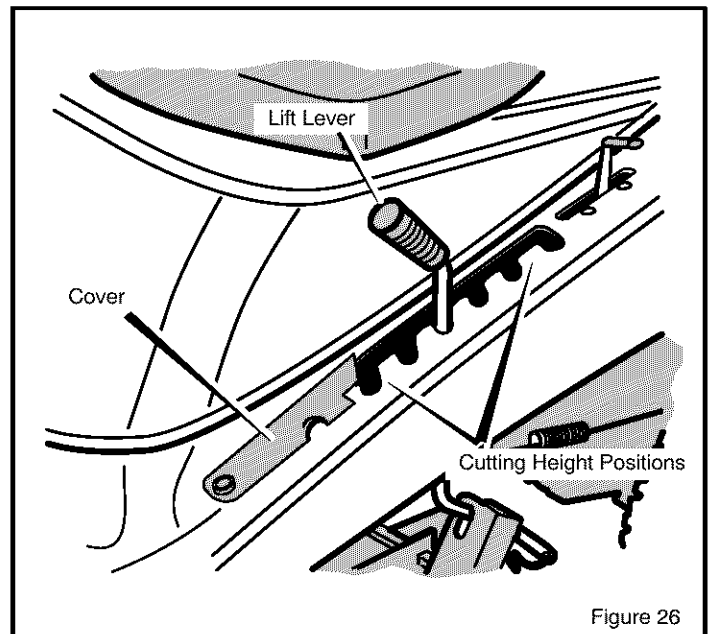

Figure 26
7. Raise the **lift lever** from the LEVEL ADJUSTMENT position to a CUTTING HEIGHT position (Figure 26).